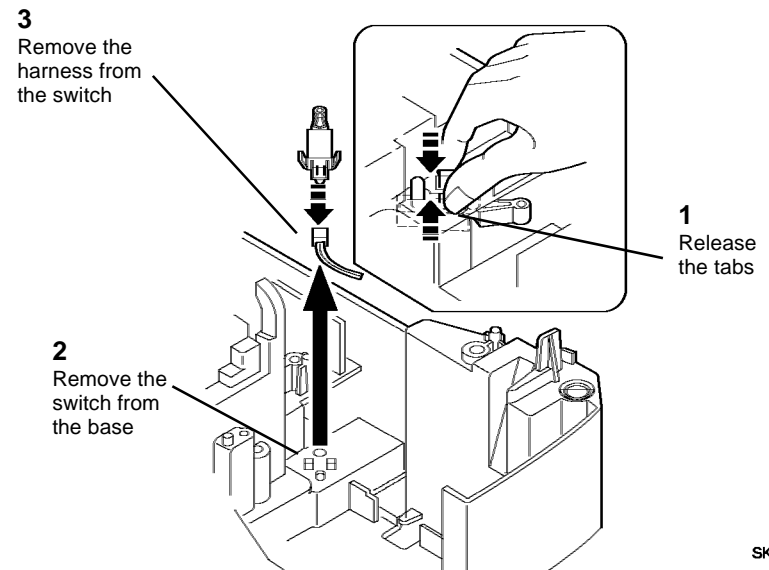

Figure 3 Removing the Tray Detect Switch
4. (Figure 3): Remove the Tray Detect Switch.